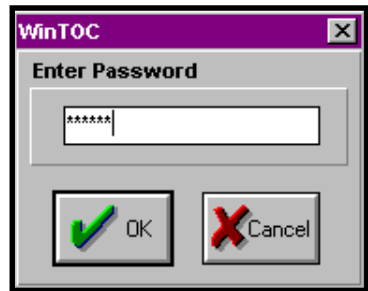

Figure 4.1. Password Dialog Box
1. From the Status Screen, go to the **Utilities** menu and select **Security**. The Password dialog box will appear (Figure 4.1).